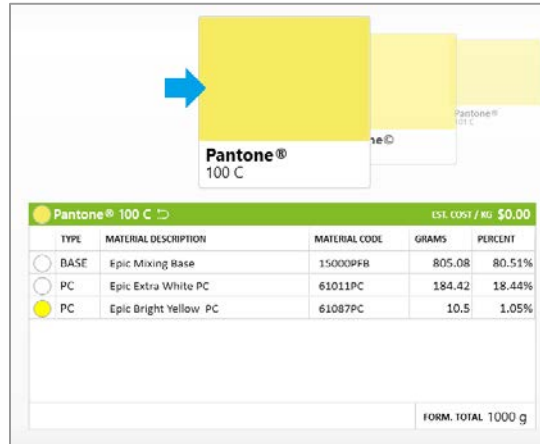

Figure 27 Select desired color from Formula Picker
1. Select the formula you would like to use from the Formula Picker. We will continue using Pantone 100C. (Figure 27)